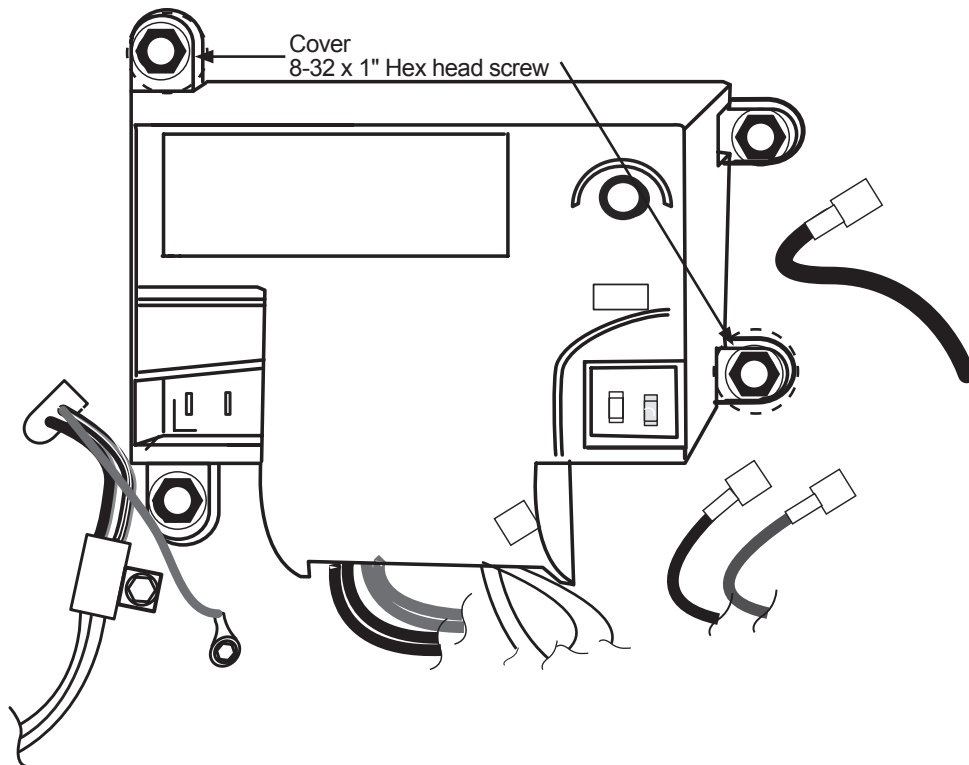

Figure 7-11. Cover retaining screws location.
6. Remove the power board cover. See Figure 7-11, page 59.